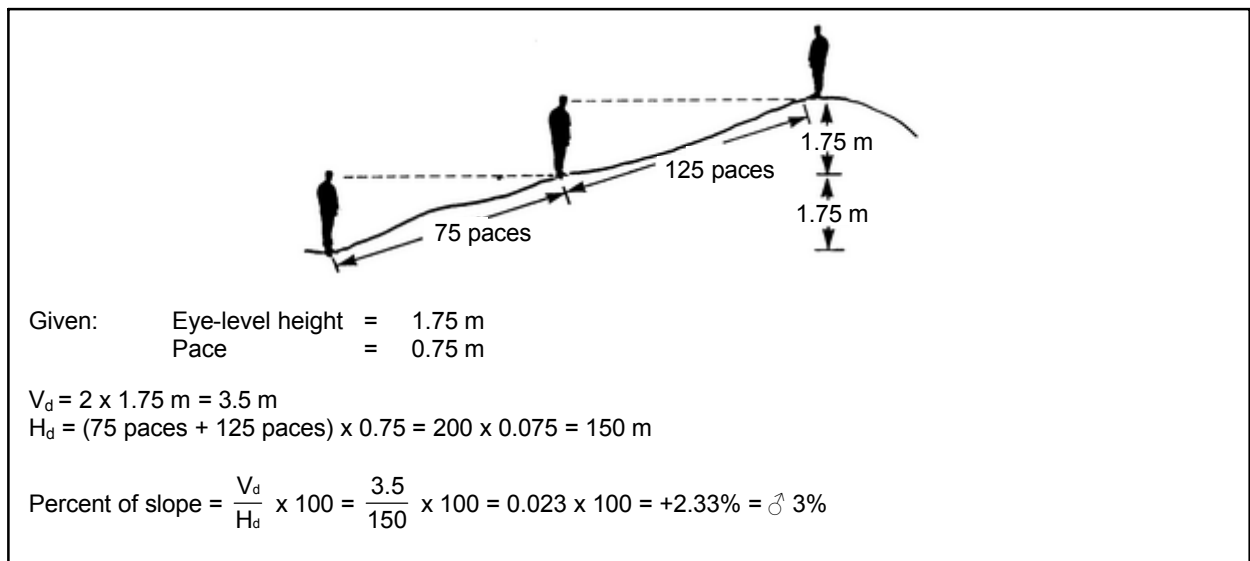

Figure 1-4. Pace Method to Determine the Percent of Slope
(2) The pace method relies on a soldier's line of sight to measure the vertical distance and pacing off the ground to measure the horizontal distance (*Figure 1-4, page 1-5*). The average eye level is 1.75 meters above the ground. The average pace is 0.75 meter. These measurements should be accurately determined for each member of a reconnaissance team.